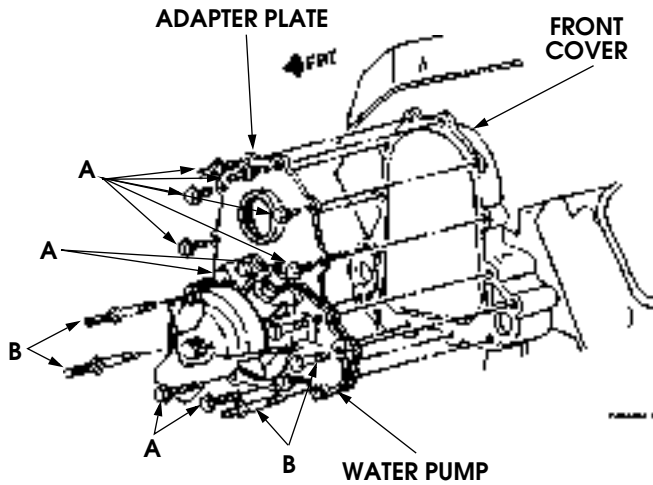

Figure 2-173: Adapter Plate and Water Pump Installation
3. Install adapter plate and water pump on front cover. Tighten all studs and short bolts marked A to 13-20 lb-ft (18-27 N•m). Tighten large studs and large bolt marked B to 25-37 lb-ft (34-50 N•m) (Figure 2-173).